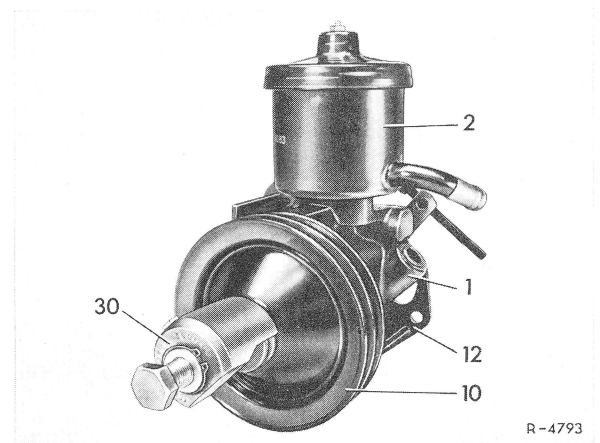

Fig. 3
6 Pull pulley (10) from drive shaft with pulling fixture (30) (Fig. 3).
7 Unscrew hex bolts and remove high-pressure oil pump from carrier (12) (Fig. 3).
8 Insert high-pressure oil pump into carrier (12) and attach with hex bolts. The threads of the rear bolt are measured in inches (Fig. 3).